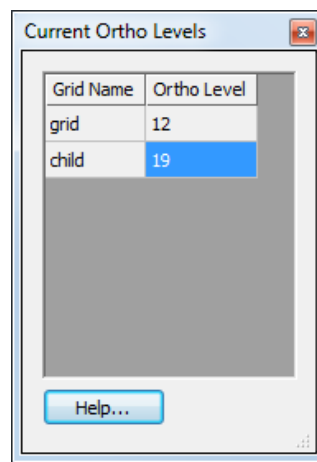

Figure 8 Current Ortho Levels dialog
- On the Mini Grid Toolbar, turn on *Multiple grids* to bring up the *Current Ortho Levels* dialog (Figure 8).